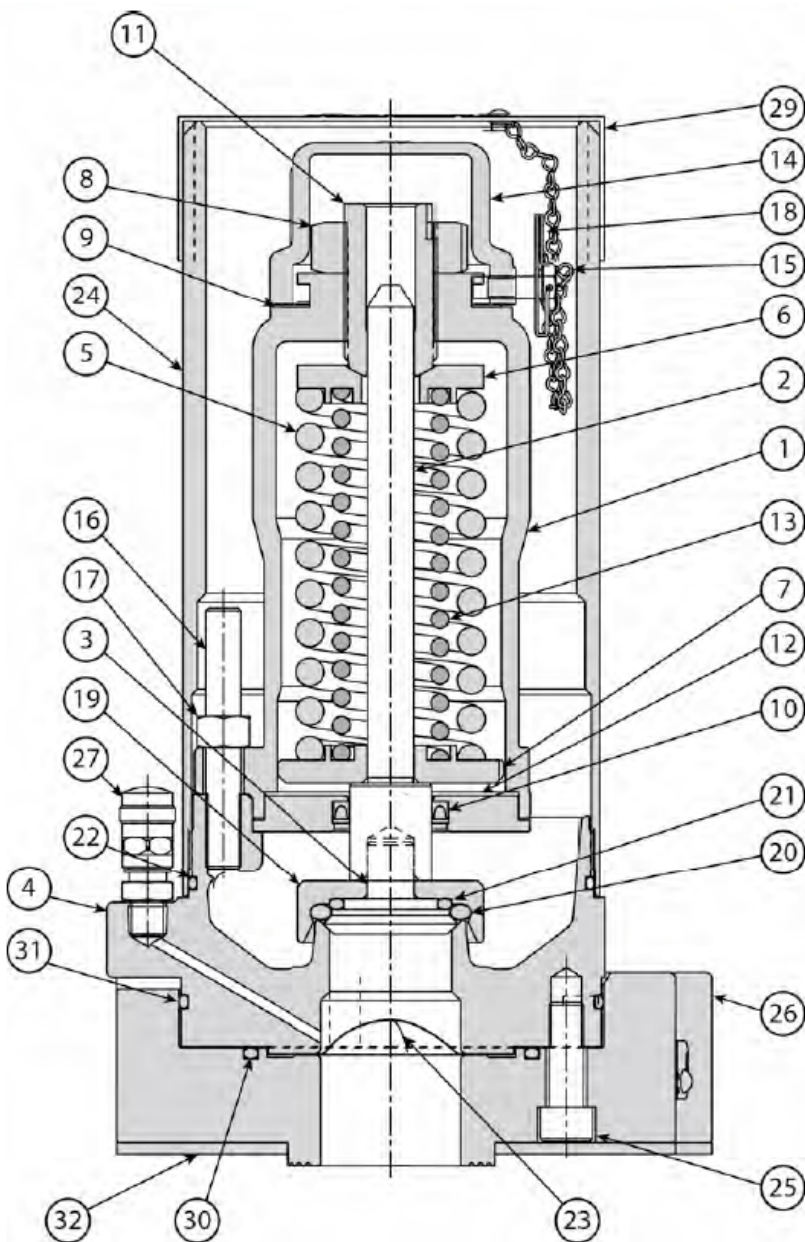

Figure 1-3 Cross-Sectional View with Callouts
- 3.1.1** Remove the protective cap (blue) and cut the seal wire (Item 18 of Figure 1-3) to release the cap chain. Unscrew and remove the flue (tube) from around the valve.
- 3.1.3** If present, remove the flue O-ring (See Item 22 of Figure 1-3).
- 3.1.4** Remove the rupture disc flange bolts (Item 25 of Figure 1-3) from the valve base. Separate the disc flange from the valve base and remove the rupture disc (Item 23) inner and outer O-rings (Items 30 and 31 respectively; see Figure 1-3).
- 3.1.5** Loosen the set screw (Item 15 of Figure 1-3) thus securing the cap (Item 14).
- 3.1.7** Remove the top gasket or bumper (Item 9 of Figure 1-3).
- 3.1.8** Loosen the top nut (Item 8 of Figure 1-3) one turn counterclockwise.
- 3.1.9** With a locking bench clamp (Figure 3-3), apply pressure to the adjusting screw (Item 11 of Figure 1-3). While so clamped, remove the four nuts (Item 17) securing the top guide (Item 1) to the valve base.
- 3.1.11** Remove the adjusting screw (Item 11 of Figure 1-3) and top nut (Item 8) from the top guide and from one another.
- 3.1.12** From the valve stem (Item 2 of Figure 1-3) remove the follower (Item 6), outer spring (Item 5), inner spring (Item 13) and the guide (Item 7).
- 3.1.13** Lift the stem (Item 2 of Figure 1-3) and seal retainer (Item 12) straight up and off the shaft and off the plug (Item 3).
- 3.1.14** Remove the shaft seal (Item 10 of Figure 1-3) from the seal retainer (Item 12).
- 3.1.15** Lift or pry up the retainer (Item 19 of Figure 1-3). It will likely lift off with the valve plug (Item 3) as a single unit.